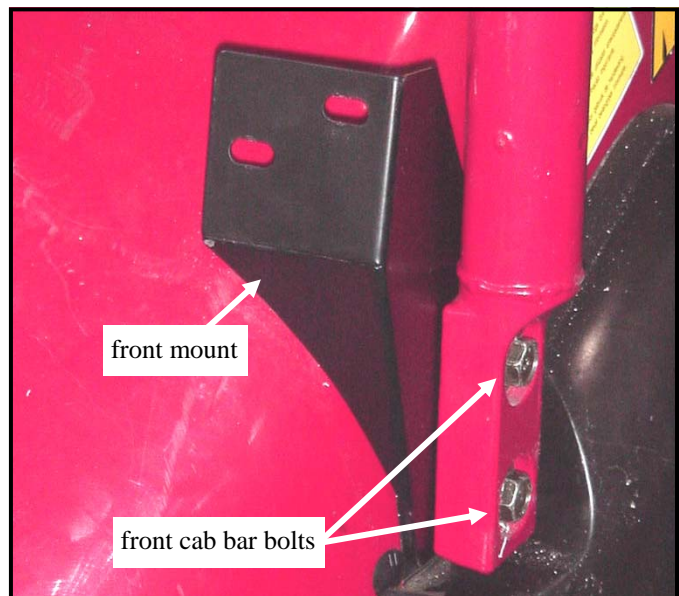

Fig. 2.1 (view from front of driver's side)
2.1 Loosen the front cab bar bolts and slide the front mount in place between the cab bar and the plastic hood as shown in Fig. 2.1. Repeat for passenger's side. Leave the bolts loose so that the front mounts can be adjusted when the side frames are installed in step 5.